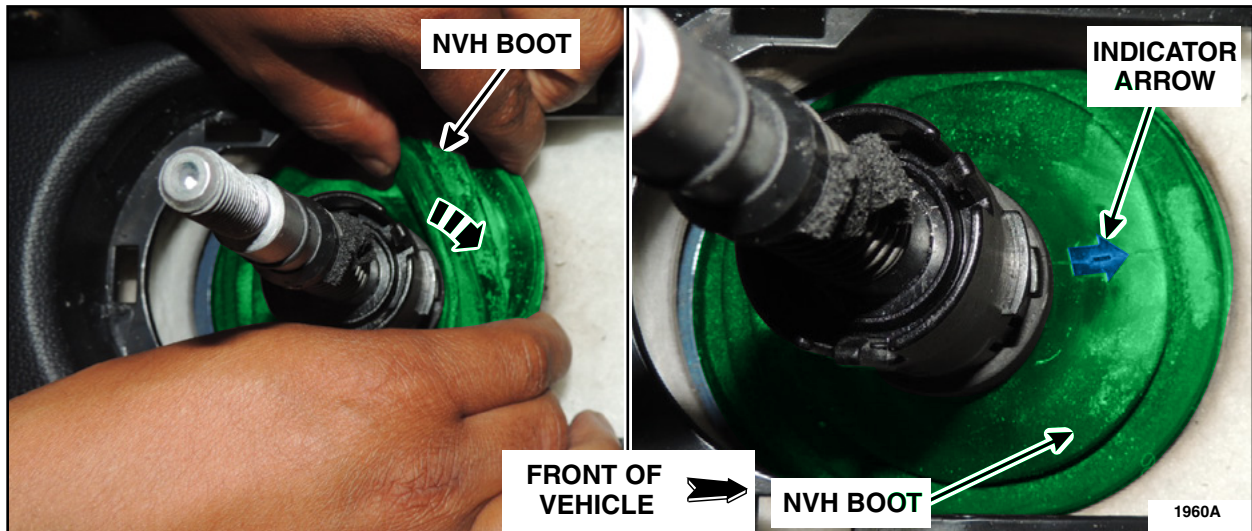

FIGURE 20
29. Install the rubber NVH boot over the gearshift. See Figure 20.